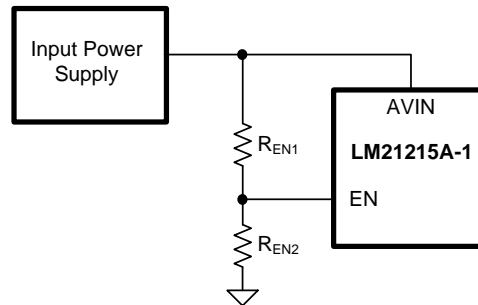

Figure 30. Input Voltage Turn-on Setpoint Configured by Enable Resistor Divider
The LM21215A has a built-in undervoltage lockout protection circuit that prevents the device from switching until the input voltage reaches 2.7 V (typical). The UVLO threshold has 200 mV of hysteresis that prevents the device from responding to power-on glitches during startup. As mentioned above, adjust the turn-on threshold of the supply by using the precision enable pin and a resistor divider network connected to VIN. Please refer to Figure 30 of the *Detailed Design Procedure* section for more detail.
The Enable (EN) pin of the LM21215A allows the output to be toggled on and off. This pin is a precision analog input. When the voltage exceeds 1.35 V, the converter begins to regulate the output voltage as long as AVIN has exceeded the UVLO threshold voltage of 2.7 V. There is an internal pullup current source of 2 μ A connected to EN. If enable is not used, the device turns on automatically. Also, if EN is not toggled directly, the device can be set to turn on at a certain input voltage higher than the internal UVLO rising threshold. This is achieved with an external resistor divider from AVIN to EN and EN to AGND as shown in Figure 30.